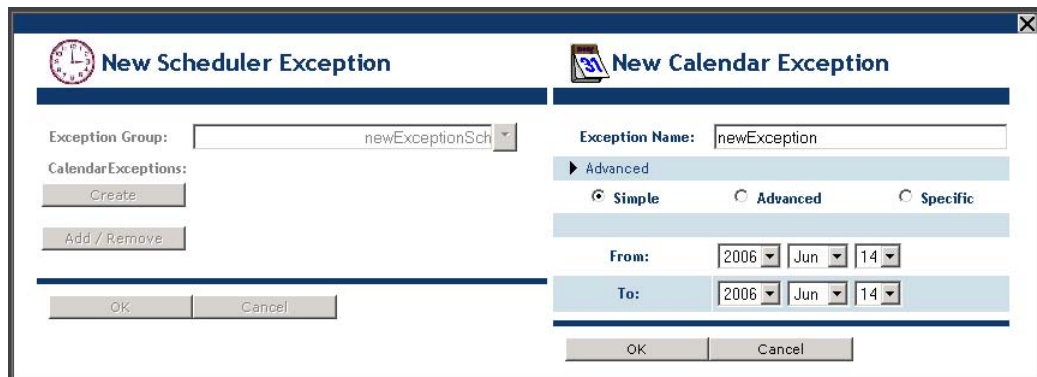

Figure 6.10 New Calendar Exception Dialog
3. Click **Create** to create a recurring exception. The dialog will expand to appear as shown in Figure 6.10.